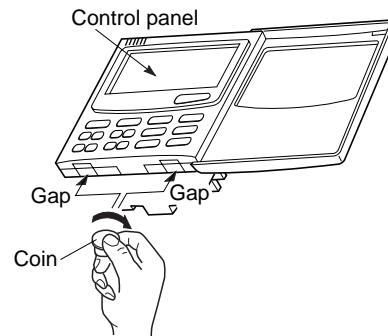

Fig. 6-4
- (1) When you open the decorative cover, you will see two gaps under the remote controller. Insert a coin into these gaps and pry off the back case. (Fig. 6-4)